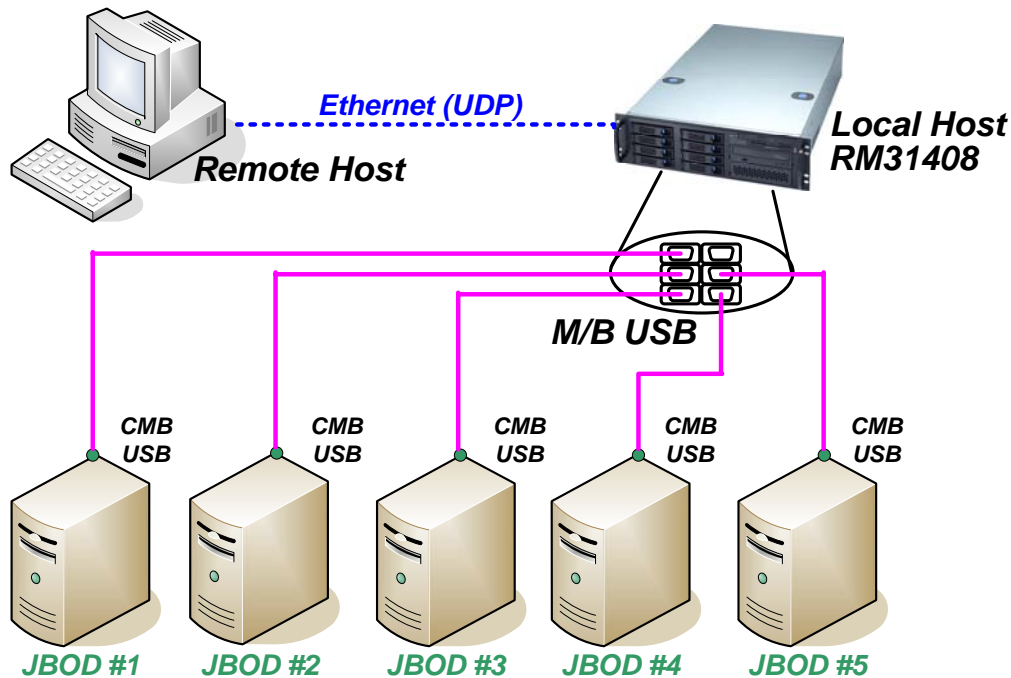

Figure-4
- **Device list:** There are up to 6x system (CMB) can be monitored at one time. Factory default setting is start from system1, and normally to be the server with CMB integrated. For the system2~6, it's normally runs as "remote" mode, see Figure-4 for the connection concept.